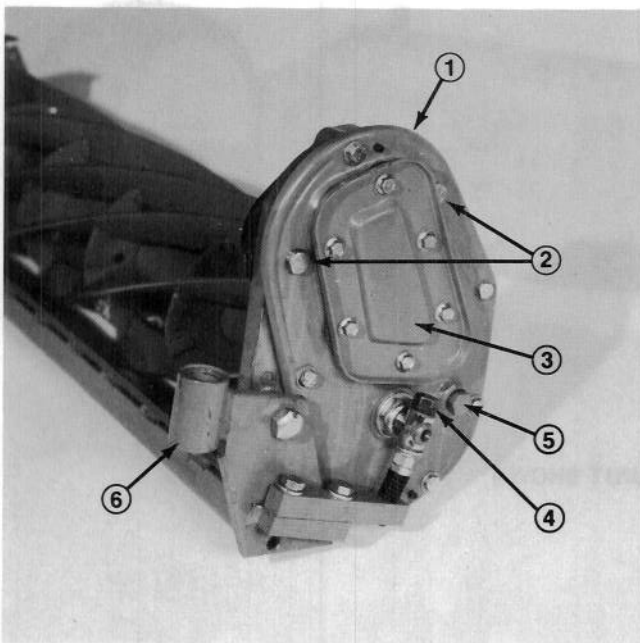

Figure 1
- Figure 1
2. Mount plate - Wheel axle motor (2)